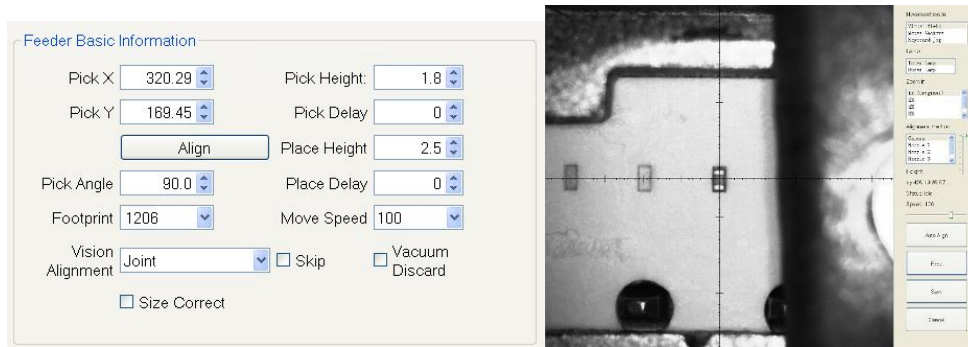

Figure 4.14
(1) Pick X/Y: First have to lock the position of component on the feeder, once saved the modification, the XY date will automatically change to the ones after alignment. See the Figure 4.14.